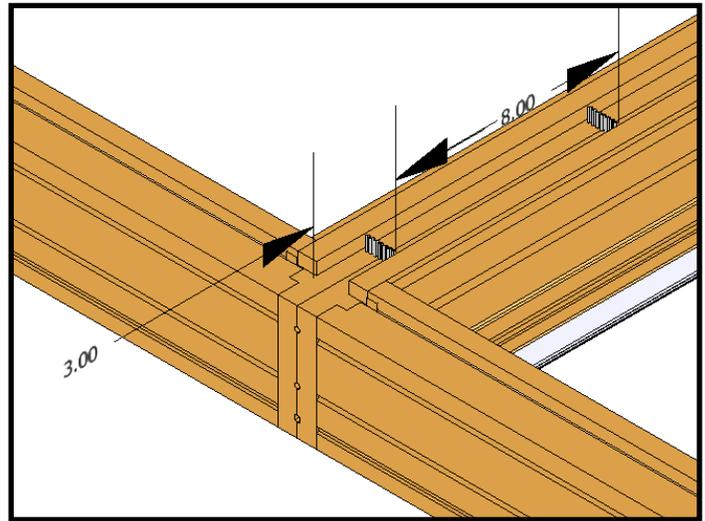

Figure 3
C. Apply corrugated staples 3" from ends of mull and 6"- 8" spaced down the length of the securing the units together (figure 3).